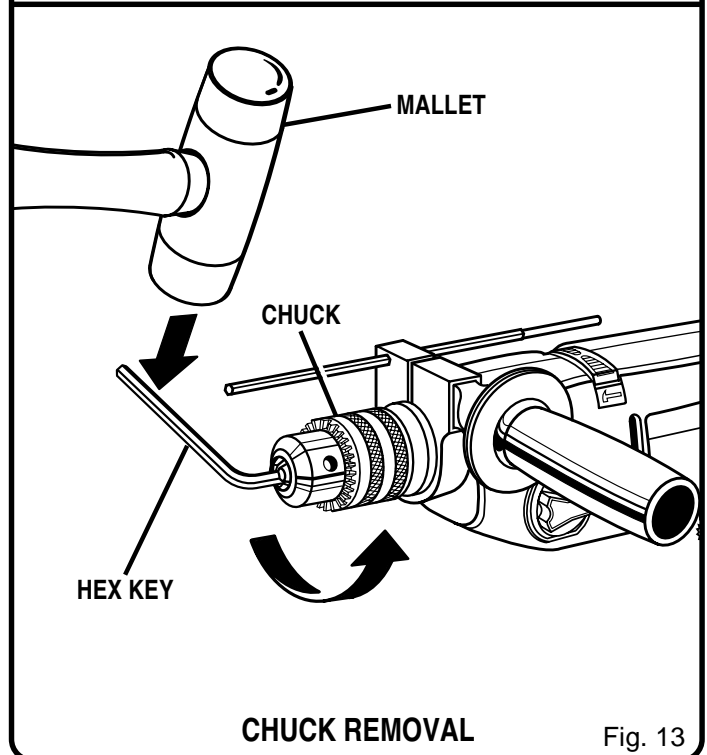

Fig. 13
- Insert hex key in chuck and tighten chuck jaws securely. Tap sharply with a mallet in a counterclockwise direction. This will loosen the chuck on the spindle. It can now be unscrewed by hand. See Figure 13.